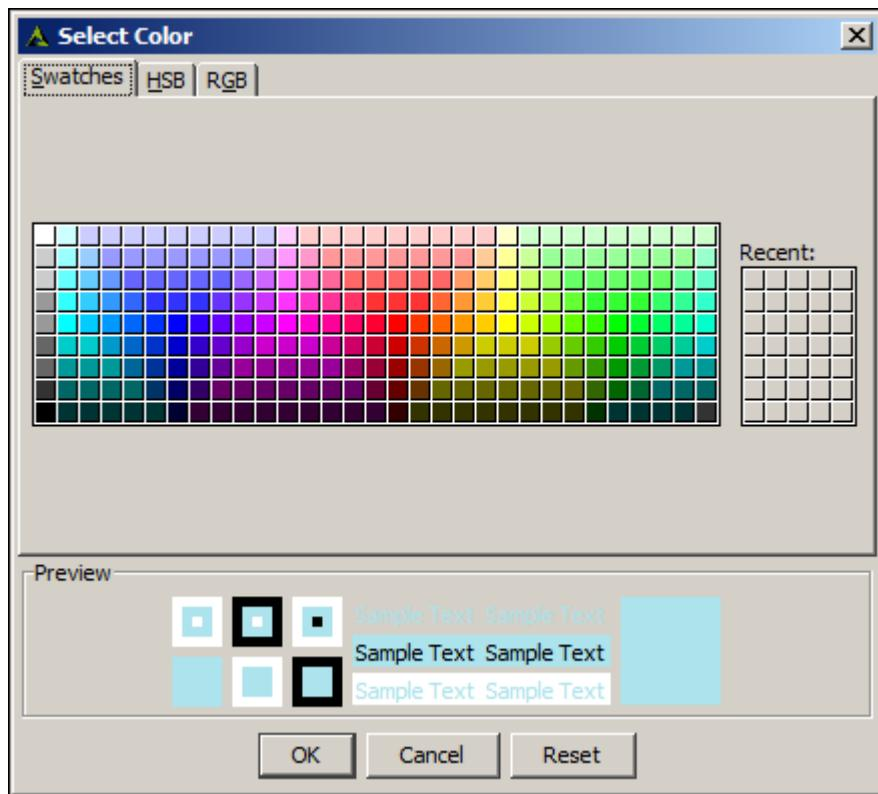

Figure 44: Select Color
2. The **Select Color** screen is displayed (see Figure 44).